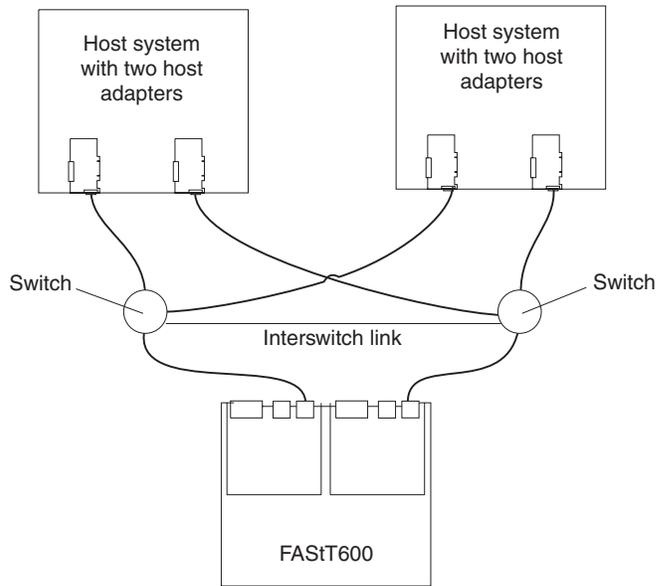

Figure 20. Example of a single SAN fabric zone configuration
- Single SAN fabric zone configuration in Figure 20 on page 24